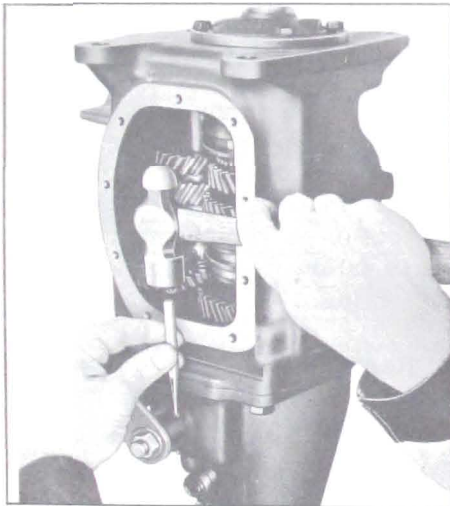

Figure 4-19—Removing Reverse Shifter Shaft Lock Pin
4. Drive lock pin up from reverse shifter lever boss, as shown in Figure 4-19, and pull shifter shaft out about 1/8". This disengages the reverse shift fork from reverse gear.